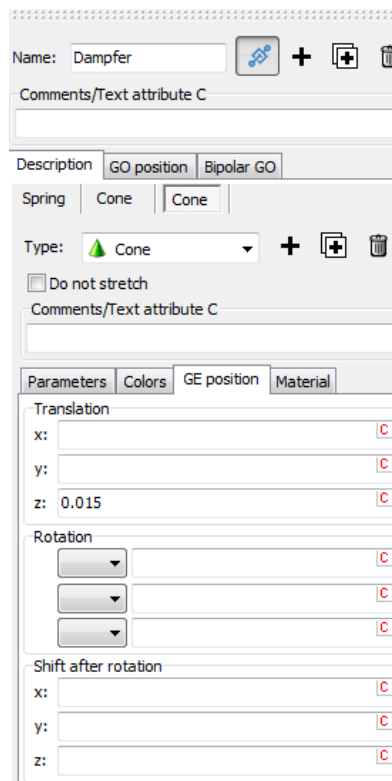

Figure 2.39.
9. Add the second GE **Cone** and set its parameters as in Figure 2.38b. Go to the **GE position** tab of the second GE **Cone** (Figure 2.39) and shift the element on **0.015** along Z axis (the **Translation** | z box).